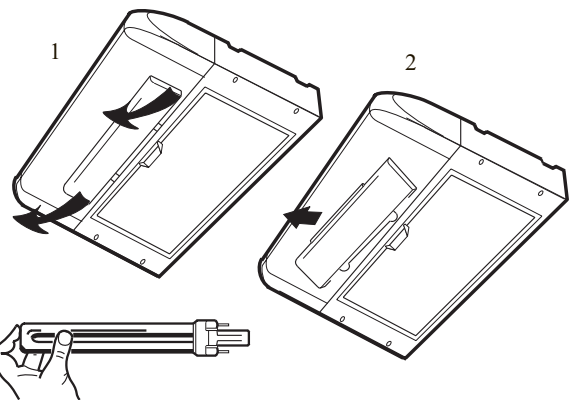

Fig. 3
- 1 Remove the lampglass by pushing the two snaps forwards (Fig. 3).